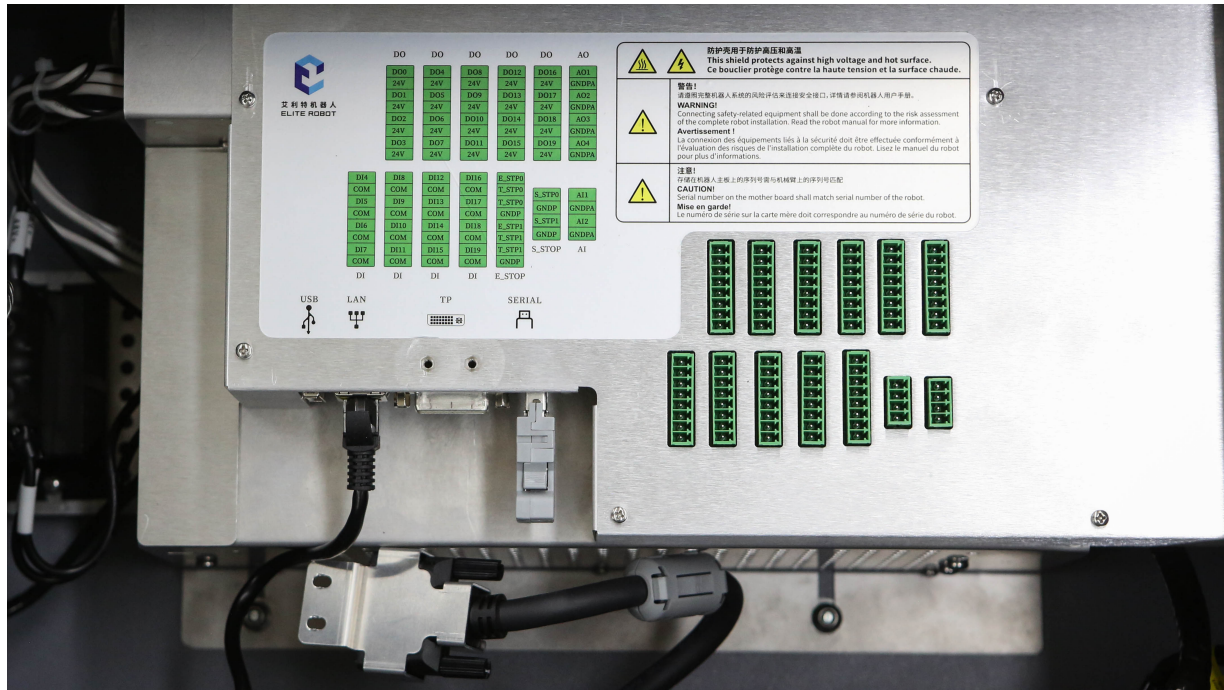

Figure 5-5 : Dismantling the controller
2. Open the cover of the controller, unplug all the terminals on the IO board, use a screwdriver to remove the fixing sheet metal of the teach pendant plug, lightly twist the fixing screws at both ends of the teach pendant plug, and pull out the teach pendant plug, as shown in **Figure 5-5** .